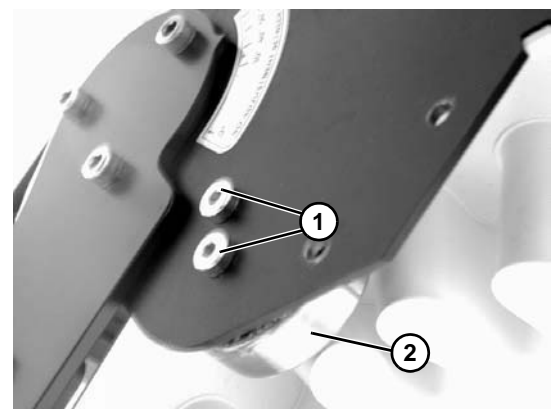

Figure 19
5. Remove screws (**Figure 19, item 1**) and remove roller bearing (**Figure 19, item 2**).